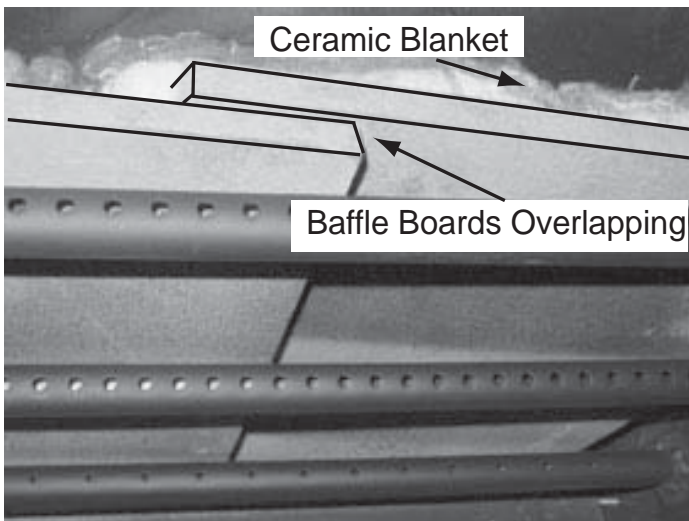

Figure 23.1
3. Once the baffle protection cover has been removed, pull the baffle boards and ceramic blanket forward about 1 inch (25mm) and then overlap the baffles about 1-2 inches (25-51mm). **Figure 23.1**.